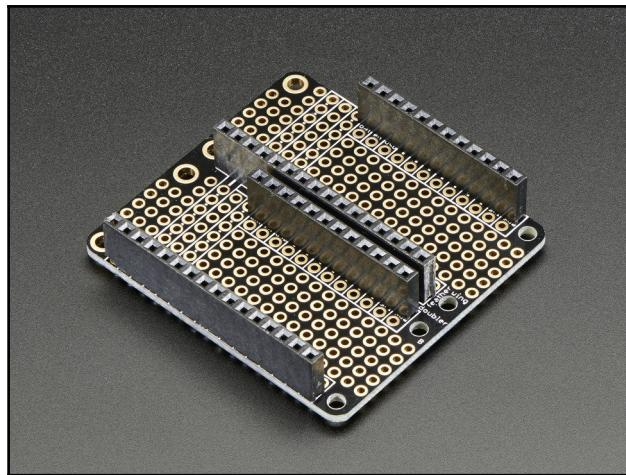

Figure 6.18: Adafruit FeatherWing Doubler - Prototyping Add-on. Image courtesy of Adafruit Industries—<https://www.adafruit.com>
1. Using four aluminum standoffs, attach the FeatherWing Doubler - Prototyping Add-on to the base plate (*Figure 6.18*):